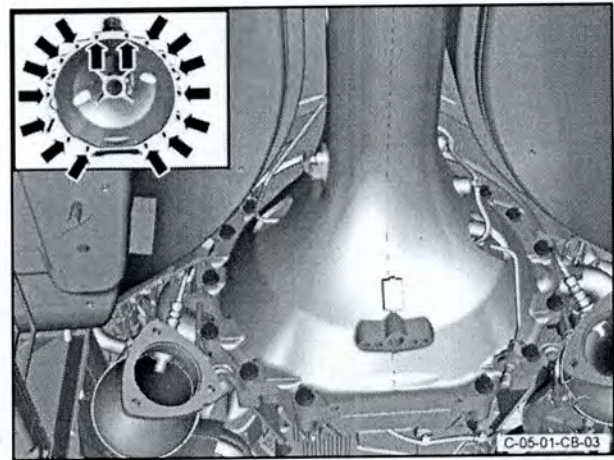

Figure 37
75. Install the 16 bolts that attach the torque tube assembly to the engine (refer to Figure 37).